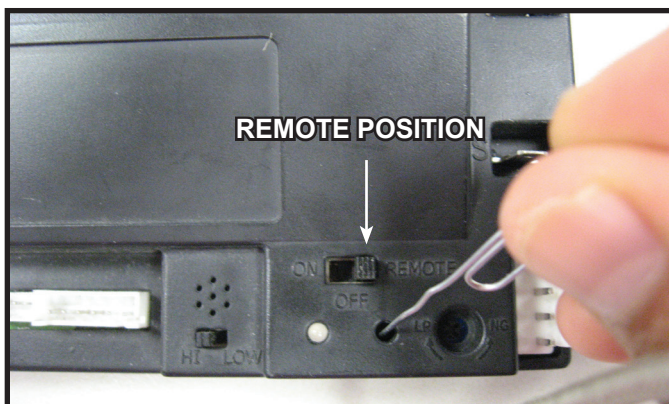

Figure 5. Programming RC300 (Control Module is located under unit.)
- Verify the ON/OFF/REMOTE switch is in the REMOTE position. Green LED light will blink three times and wall switch will beep once 5 seconds later when ready. See Figure 5.
- Using a small item (such as a paper clip) press and release the LEARN button located near the ON/OFF/REMOTE switch. See Figure 5.